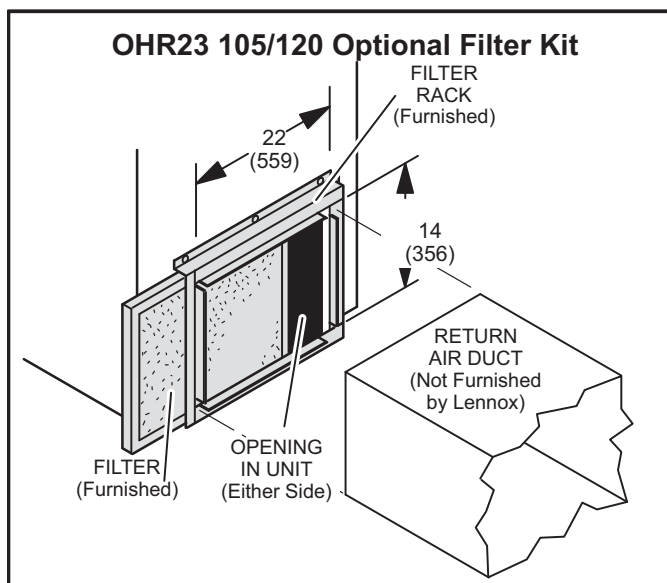

Figure 4
- 2- Using a scribe through the filter rack mounting holes, mark seven mounting hole locations in the return end of the cabinet. See figure 4.